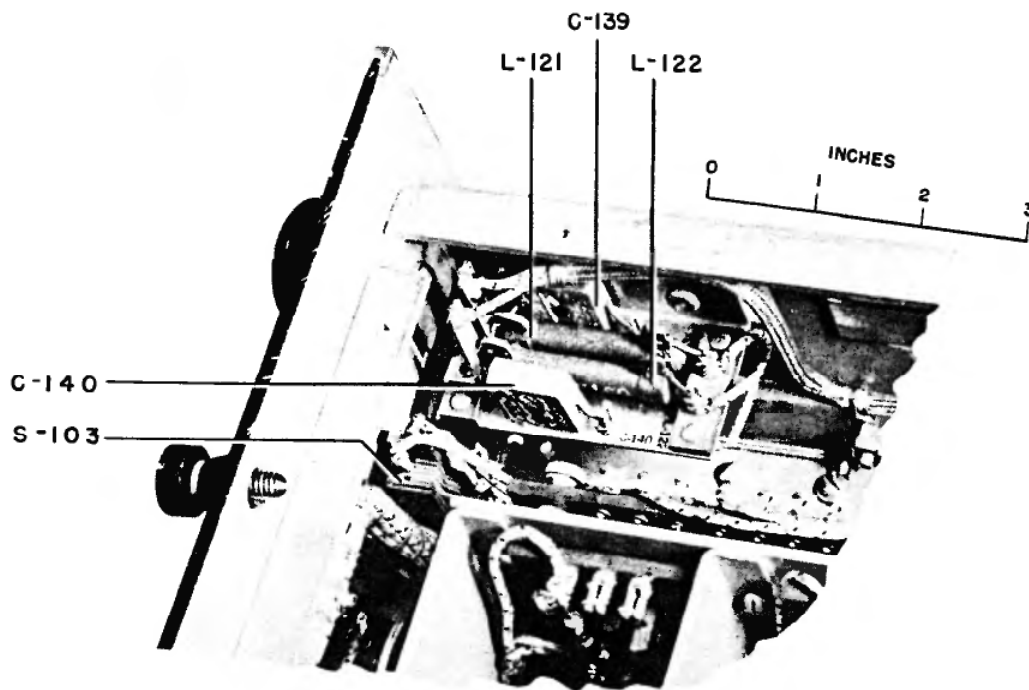

FIG. 9 TELEPHONE JACK FILTER—COVER REMOVED
- (A) Remove the two flat-head screws securing the shield to the chassis.
- (B) Loosen by two or three revolutions (but do not remove) the two flat head screws, adjacent to the shield-mounting screws. These screws mount the telephone jack filter assembly.
- (C) Slide the shield to the rear and remove. (See Fig. 9.)